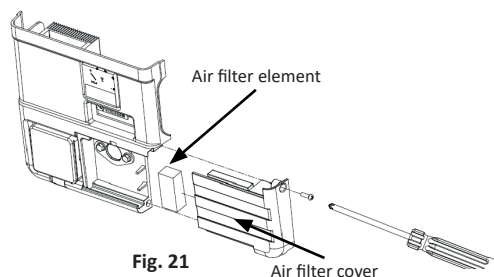

Fig. 21
1. Take the air filter element out. (Fig. 21)